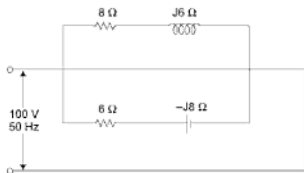

Fig. A1-58
- (c) The parallel circuit shown in Fig. A1-58 is connected across a single-phase 100 V, 50 Hz AC supply. Calculate: